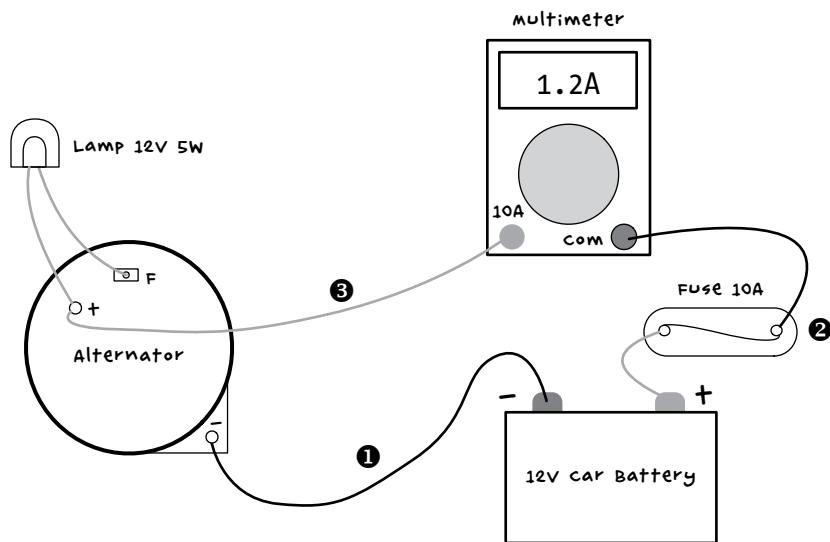
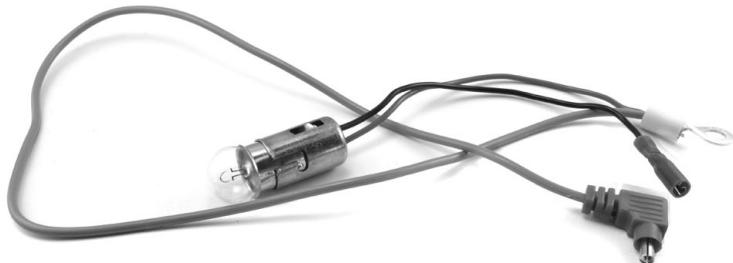

FIGURE 2-17: WIRING DIAGRAM FOR THE CYCLE CHARGER
FIGURE 2-20: THE POSITIVE CHARGING AND LIGHT BULB LEAD
Now that you know which terminal of the alternator is which, you need to make some leads to connect everything together. The wiring diagram shows how to do this (Figure 2-17).
There are a few leads to make. Let's start with the lead from the negative terminal of the alternator to the battery negative terminal (**①** in Figure 2-17). This needs a large alligator clip on the battery end and a butt connector on the other, as shown (Figure 2-18).
The most convenient type of fuse holder has trailing wires at each end. You can use these trailing wires to make the lead between the positive terminal of the battery and the multimeter (❷ in Figure 2-17). Attach an alligator clip lead to one fuse wire and attach the remaining third of the black multimeter lead to the other fuse wire. Wrap the connection between the fuse and multimeter leads with electrical tape, and you should have the completed lead (Figure 2-19).
The final of the three leads (Figure 2-20 and ❸ in Figure 2-17) combines both the lamp and the positive charging connector from the alternator to the multimeter.
With all the leads prepared, it's time to connect everything according to the diagram in Figure 2-17.